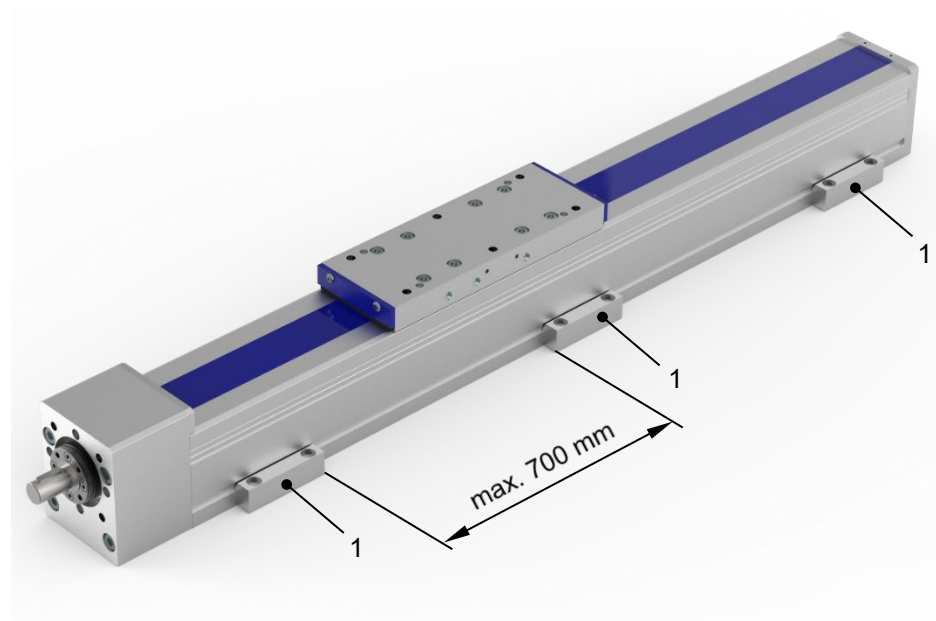

Figure 2: Mounting brackets (1)
1. Loosely fit the mounting brackets (1) into position (Figure 2).
3. Screw the mounting brackets (1) into place (tightening torques see Section 3).